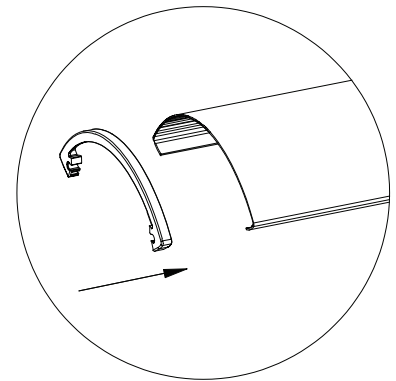

FIG.5
- 3 Install the lens by hanging from end plate pins of the luminaire and rotate into position. Flex the lens to engage end plate pins on opposite side of the luminaire. (Figure 5)
- 4 Install the lens by hanging from end plate pins of the luminaire and rotate into position. Flex the lens to engage end plate pins on opposite side of the luminaire. (Figure 5)